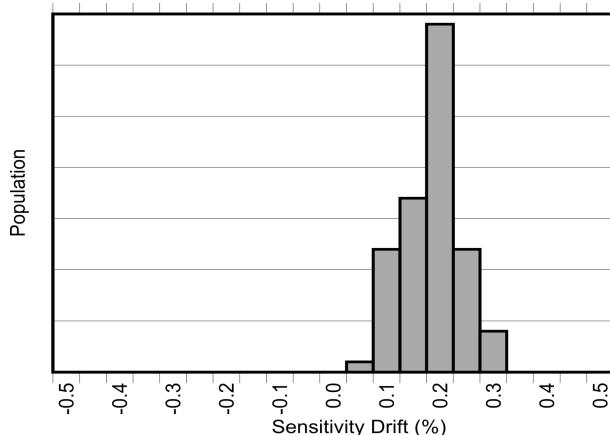
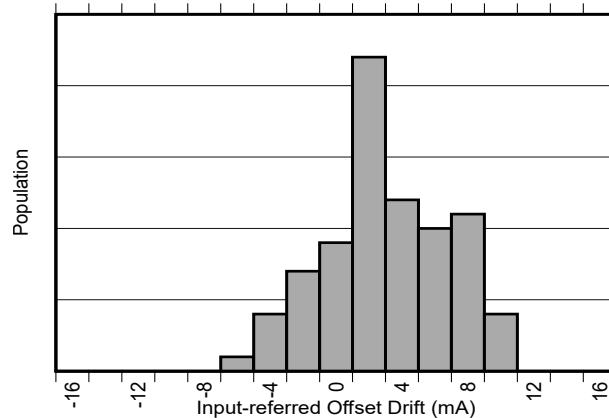

图 8-3. Sensitivity Error Drift After AEC-Q100 High Temperature Operating Life Stress Test
图 8-4. Input-Referred Offset Drift After AEC-Q100 High Temperature Operating Life Stress Test
In addition to large thermal drift, typical magnetic current sensors suffer an additional 2% to 3% drift in sensitivity due to aging over the lifetime of the device. The same proprietary compensation techniques used in the TMCS1123 to reduce temperature drift are also used to greatly reduce lifetime drift due to aging from stress and environmental conditions especially at high operating temperatures. As shown in the Electrical Characteristics, the TMCS1123 has industry leading lifetime sensitivity drift realized after Highly Accelerated Stress Tests (HAST) at 130°C and 85% relative humidity (RH) during standard three lot AEC-Q100 qualifications. Low sensitivity and offset drift within the bounds specified in the Electrical Characteristics are also observed after 1000 hour, 125°C high temperature operating life stress tests are performed as prescribed by AEC-Q100 qualifications. These tests mimic typical device lifetime operation, and show device performance variation due to aging is vastly improved compared with typical magnetic current sensors. 図 8-3 and 図 8-4 show the sensitivity and offset drift after a 1000 hour, 125°C high temperature operating life stress test as specified by AEC-Q100. Device